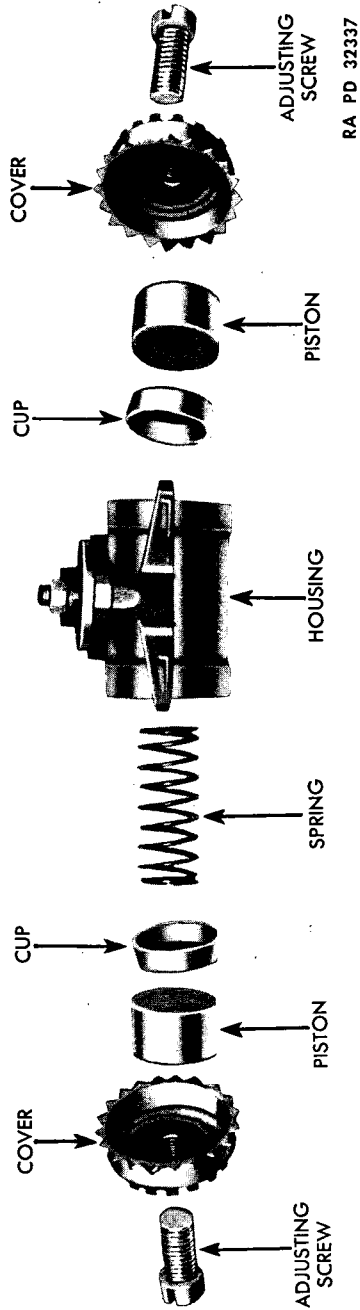

Figure 20—Wheel Cylinder Disassembled
(2) **DISASSEMBLE WHEEL CYLINDER** (fig. 20). Remove wheel cylinder clamp. Remove the end covers with the adjusting screws and remove pistons, rubber cups and spring. Inspect rubber cups for swelling or other damage. Inspect pistons and piston fit in housing. This clearance should be 0.002 inch to 0.005 inch. Inspect end covers and adjusting screws for wear or other damage. Replace any damaged parts.